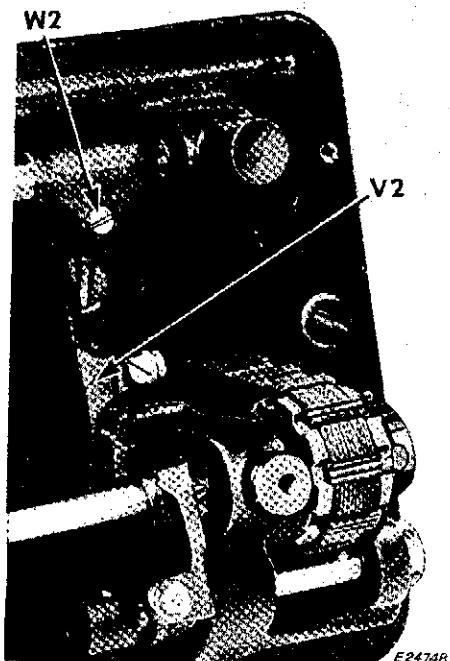

Fig. 42. Adjusting Feed Dog
**CAUTION:** To avoid binding of feed forked connecting link **V2**, Fig. 42, after adjusting **sidewise position** of the feed dog, loosen clamping screw **W2** in the feed rock shaft crank. Move crank to left or right until it reaches its dead center. Then securely tighten the screw **W2**.